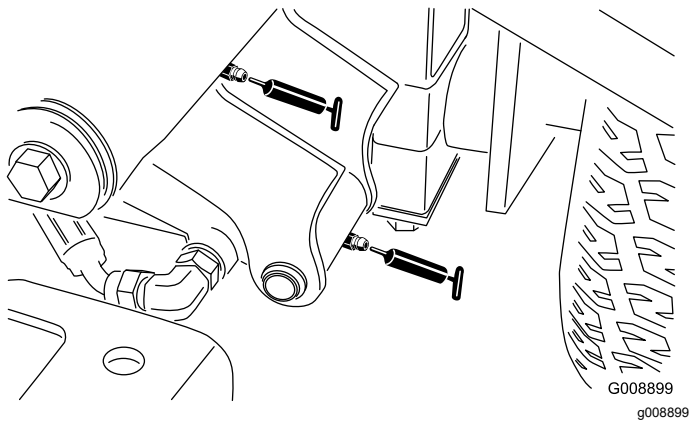

Figure 37
- 2 left, front lift-arm pivots and lift cylinder (Figure 37)